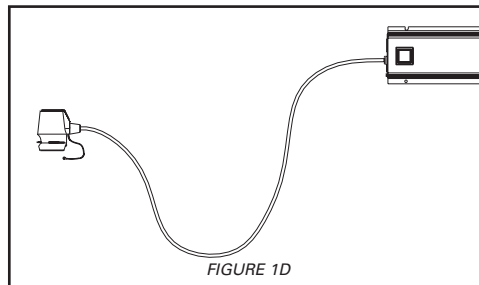

FIGURE 1D
4. Mount the Platinum ICE controller horizontally to the wall, near the reactor chamber. Ideally place the controller above the reactor and away from any water connection point, to prevent any water from potentially leaking onto the controller by means of a leak at a connection point or a "sweating" system. Make sure you allow for a "drip-loop" (Figure 1d) on the lamp, sensor and power cord, again, to prevent any water from potentially entering the controller. Affix the green ground wire to the grounding lug at the top of the reactor vessel and securely fasten with the locknut provided (Figure 1e).